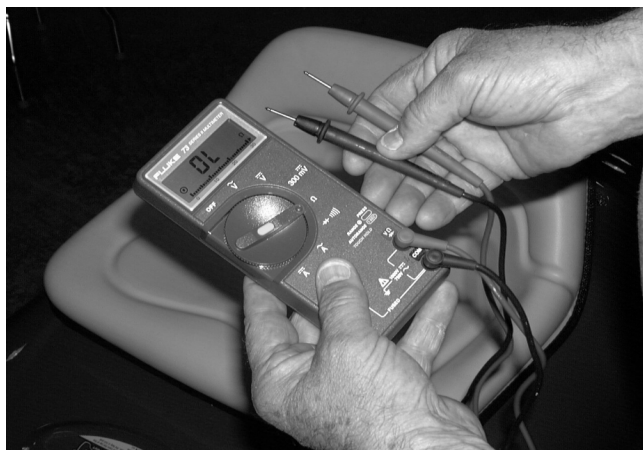

FIGURE 1.
- 2). Place the multimeter in the **OHM'S** mode until instructed to change modes. See figure 1.